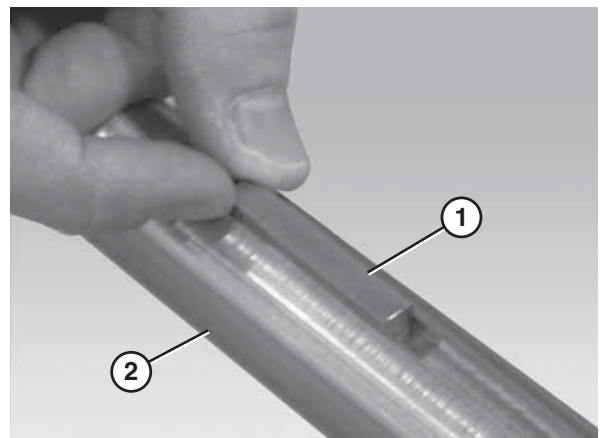
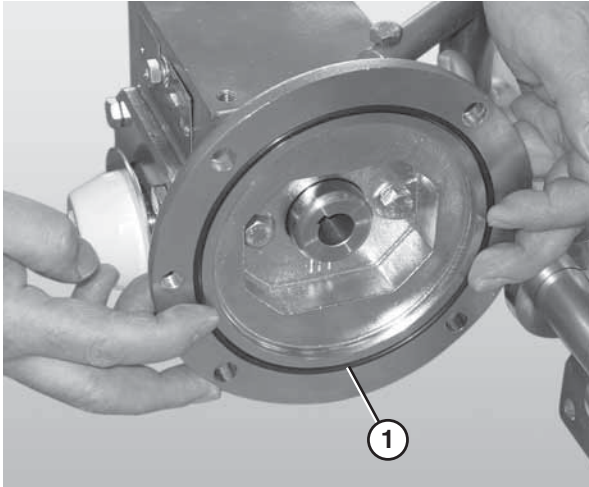

Figure 33
Figure 34
8. Insert the gearmotor output shaft key (Figure 33, item 1) into the gearmotor output shaft keyway (Figure 33, item 2).
Ensure the O-ring (Figure 34, item 1) and gearmotor output shaft key (Figure 33, item 1) are situated properly before attaching the motor to the gear reducer.